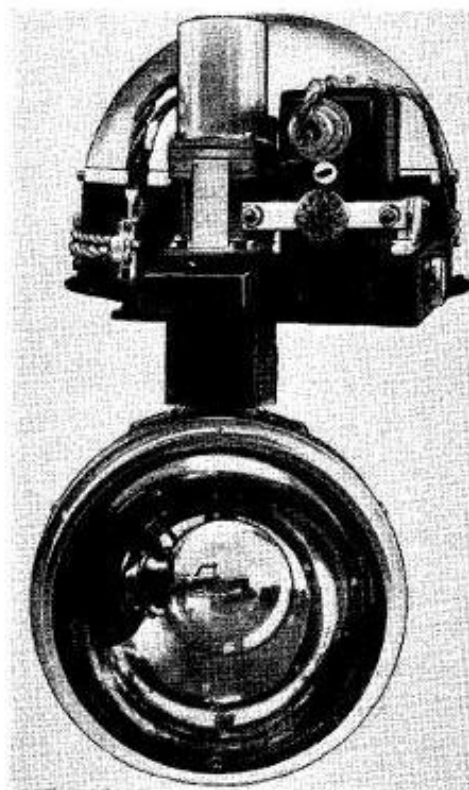

Fig. 1. Landing lamp, general view
4. Two models of the lamp are in service, the earlier model, Pre Mod. 1, has a buffer arrangement in the frame casting to absorb vibration in the filament housing when the lamp is retracted (shown in fig. 1). Later models, Post Mod. 1, have improved vibration damping provided by spring loaded couplings in the elevation mechanism (shown in fig. 4).